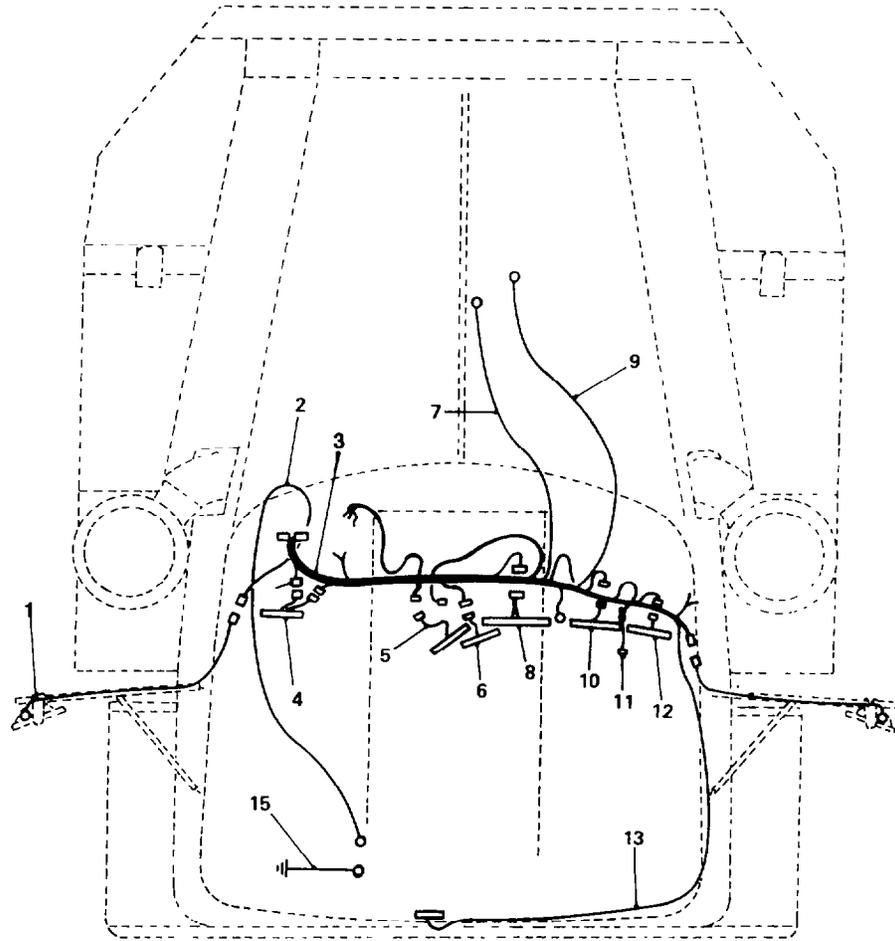

Fig. 383 — Main (Cab) Wiring Harness
- a. The replacement procedure for the main wiring harness, illustrated in fig. 383, is identical to that detailed for the engine wiring harness (refer to para. 154).